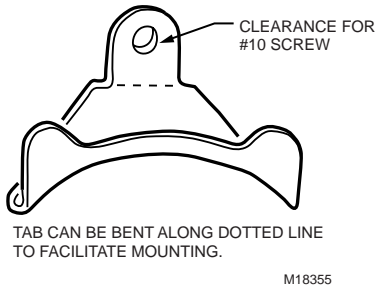

Fig. 3. Capillary clip for duct-mounted LP915A.
2. Averaging Element Clip 314439—LP915A (Fig. 3).